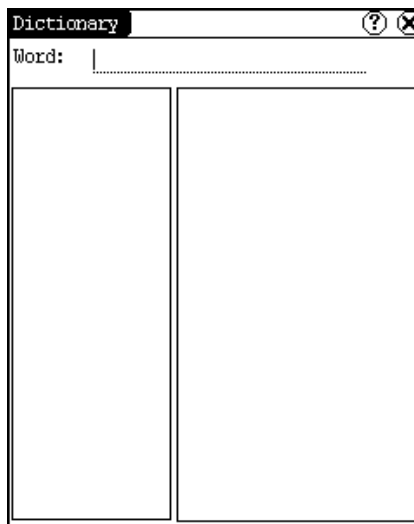

Figure 5-9
- 1) In the pop-up menu of 'Tools', select 'Minidict' to open the Dictionary interface. (See Figure 5-9)